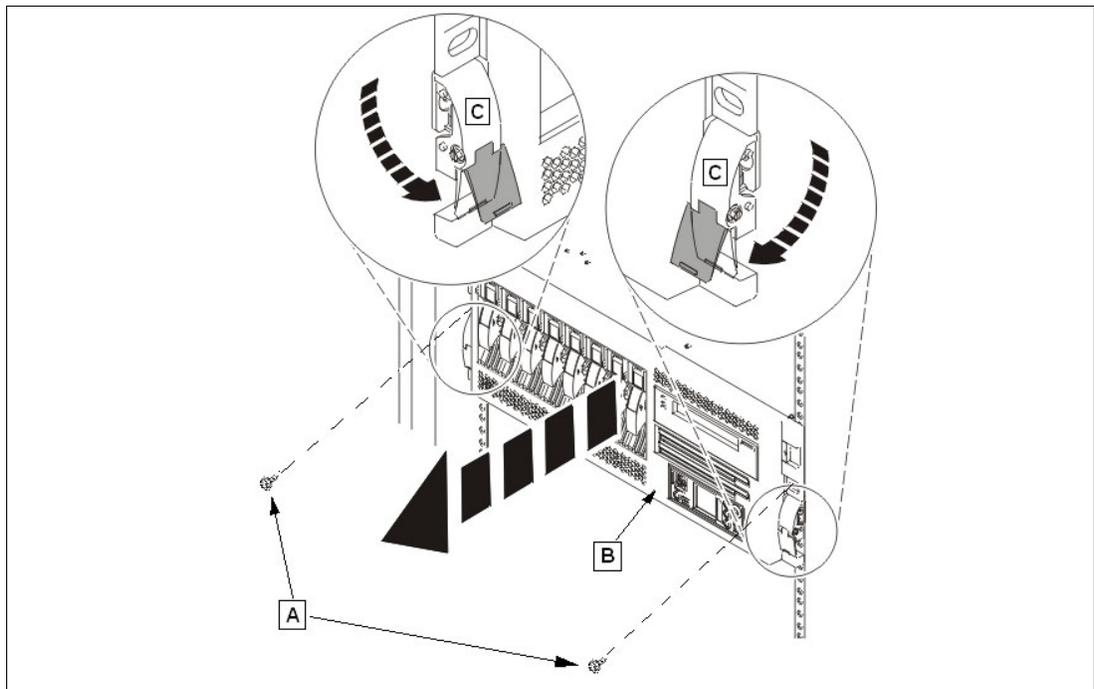

Figure 2-19 Pull the p5-550 or p5-550Q to the service position
2. Remove the two thumbscrews (A) that secure the system or expansion unit (B) to the rack, as shown in Figure 2-19.
3. Release the rack latches (C) on both the left and right sides, as shown in the Figure 2-19.